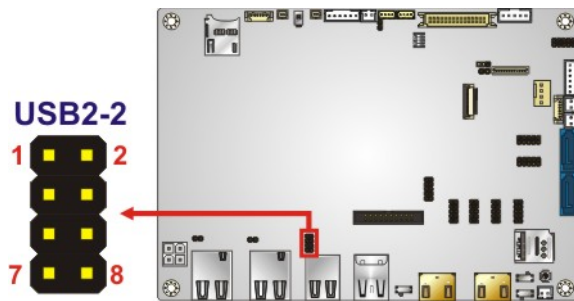

Figure 3-33: USB 2.0 Connector Location
- CN Location:** See **Figure 3-33**